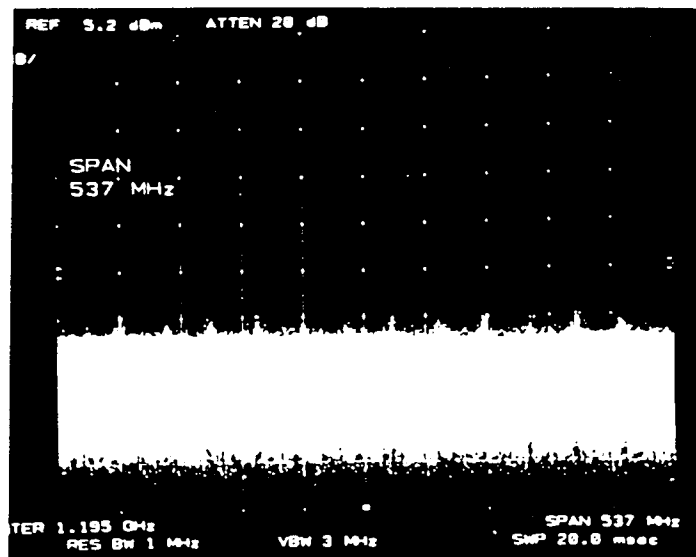

Figure 2. Minimum Transponder Signal on Spectrum Analyzer
2.2 Some transponder signal may be observed above the noise signal as shown in Figure 2.